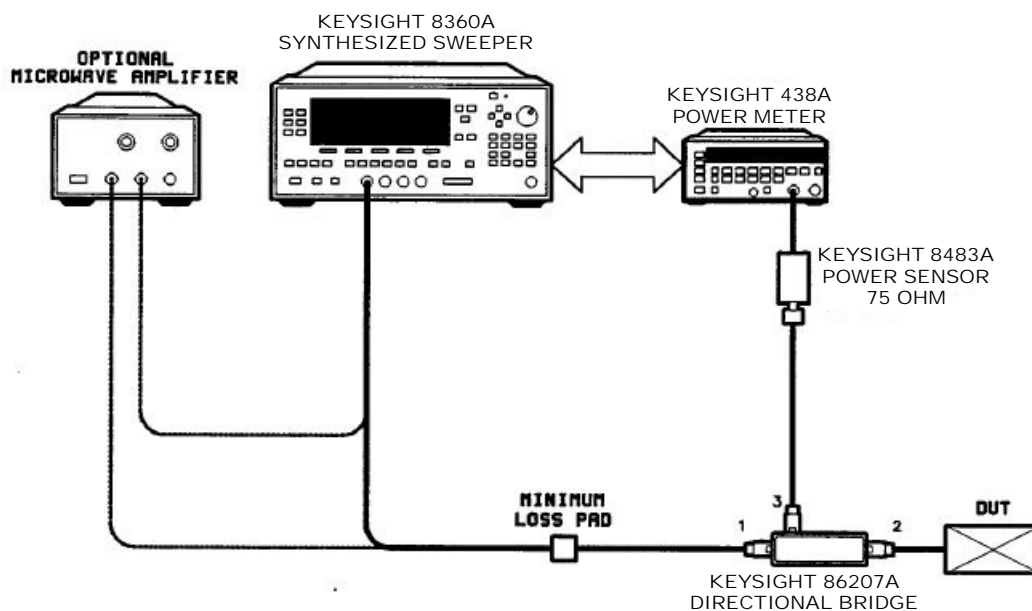

Figure 2-5 External power leveling configuration
The measurement configuration shown in Figure 2-5 provides precision power levels to a remote DUT. With a power meter and bridge, the source power can be monitored and automatically adjusted.
- 1 Connect the equipment as shown in Figure 2-5.
- 5 Connect the power sensor to the bridge as shown in Figure 2-5.